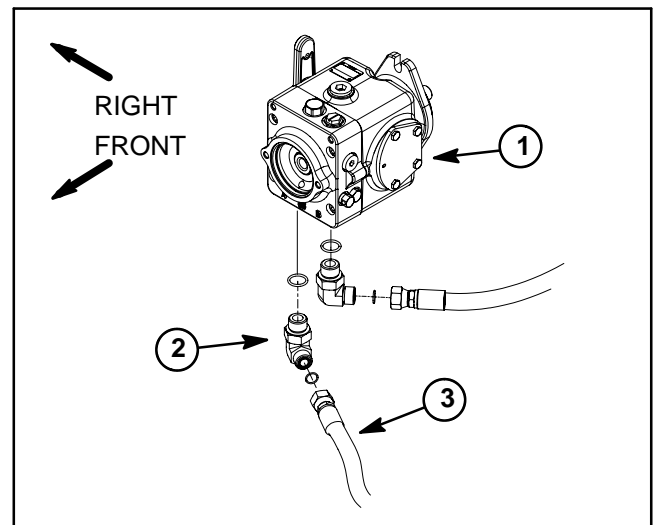

Figure 44
6. Thoroughly clean junction of hydraulic hose and **right** side fitting on bottom of traction pump (Fig. 44). Disconnect hose from right side pump fitting.